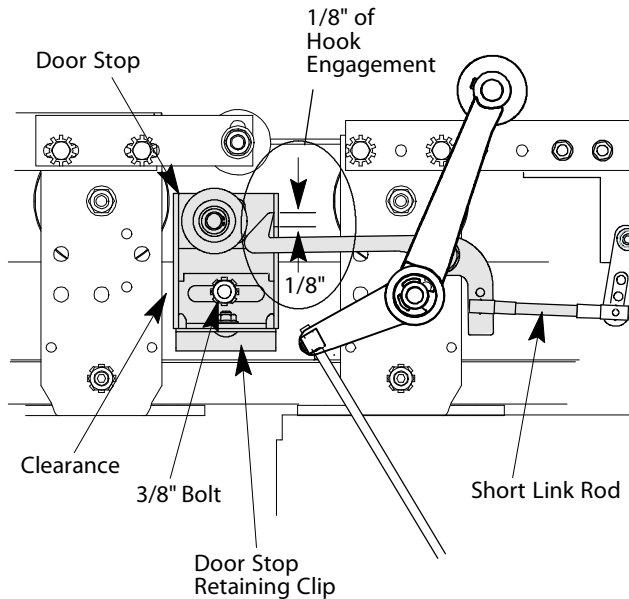

Figure 10 - Attach Door Stop To Door Track
- With the door stop roller in the highest position, use a 3/8" bolt and lockwasher to attach the door stop to the door track. See Figure 10.